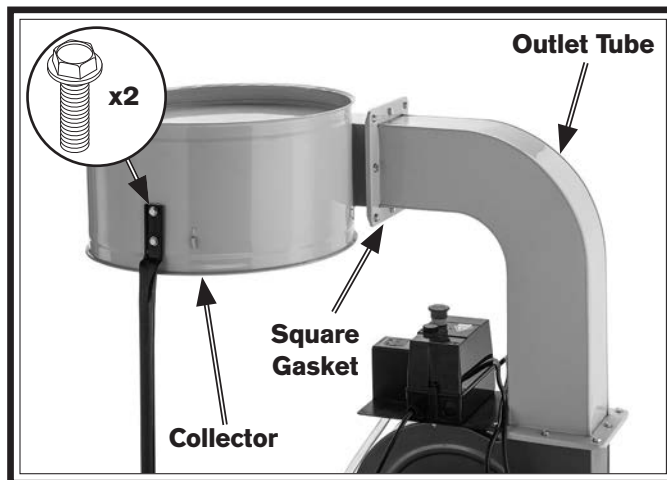

**Figure 17.** SB1101 canister support.
10. **SB1101 Only:** Repeat **Step 9** with second canister support (see **Figure 17**).